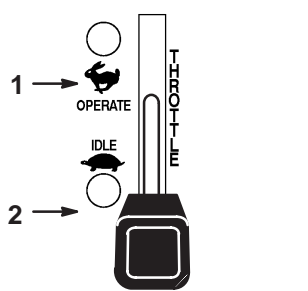

Figure 9
6. Move throttle lever midway between the slow and fast throttle positions (Fig. 9).
2. Move the throttle lever to slow (Fig. 9).
When the PTO clutch light is on it indicates the PTO clutch must be disengaged before the engine will start (Fig. 9).
When the oil light blinks it indicates the engine oil pressure is low (Fig. 9). After the engine starts the light should go out. When the engine is running if the oil pressure drops below a safe operating level the light blinks. **Stop engine immediately and correct the cause of low oil pressure.**